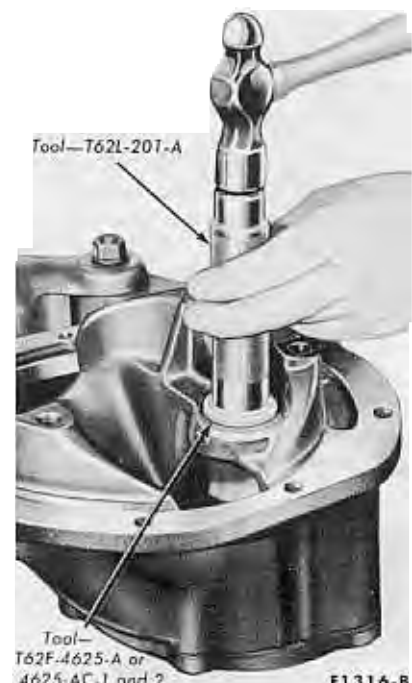

FIG. 40—Removing Pilot Bearing
1. Remove the pilot bearing as shown in Fig. 40. Drive out the pilot bearing and the bearing retainer together. On cars with high performance engines, use handle adapter T53L-200A with tool 757L-4625-A or 4625-K.